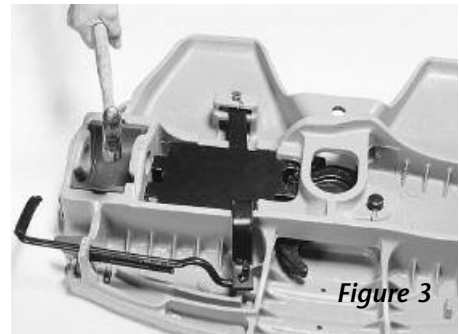

Figure 3
3. Drive out the left bracket shoe (operating rod side) with a hammer and drift pin or similar tools at the bracket shoe stop side of the plate casting pocket. A screwdriver may be wedged between the bracket shoe and pad to assist in bracket shoe removal (Figure 3).